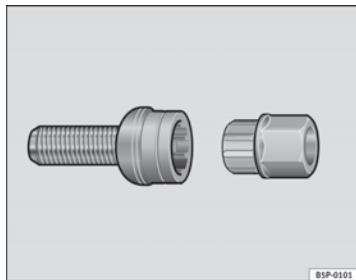

Fig. 140 Anti-theft wheel bolt
- Insert the adapter onto the wheel bolt and push it on as far as it will go ⇒ fig. 140.